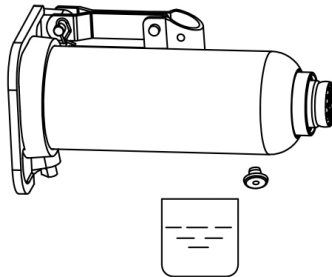

Fig. 3
2. Lay the jack on its side and drain the oil into a suitable container (Fig. 3). Dispose of used hydraulic oil in accordance with local by-laws.